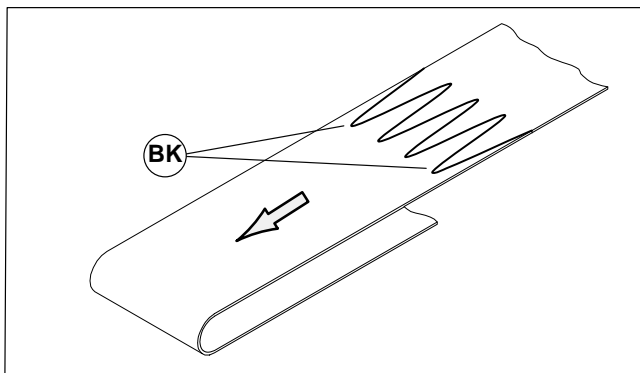

Figure 32
1. Orient the conveyor belt so that the splice leading fingers (BK of Figure 32) point in the direction of belt travel, indicated by the label (BJ of Figure 31).